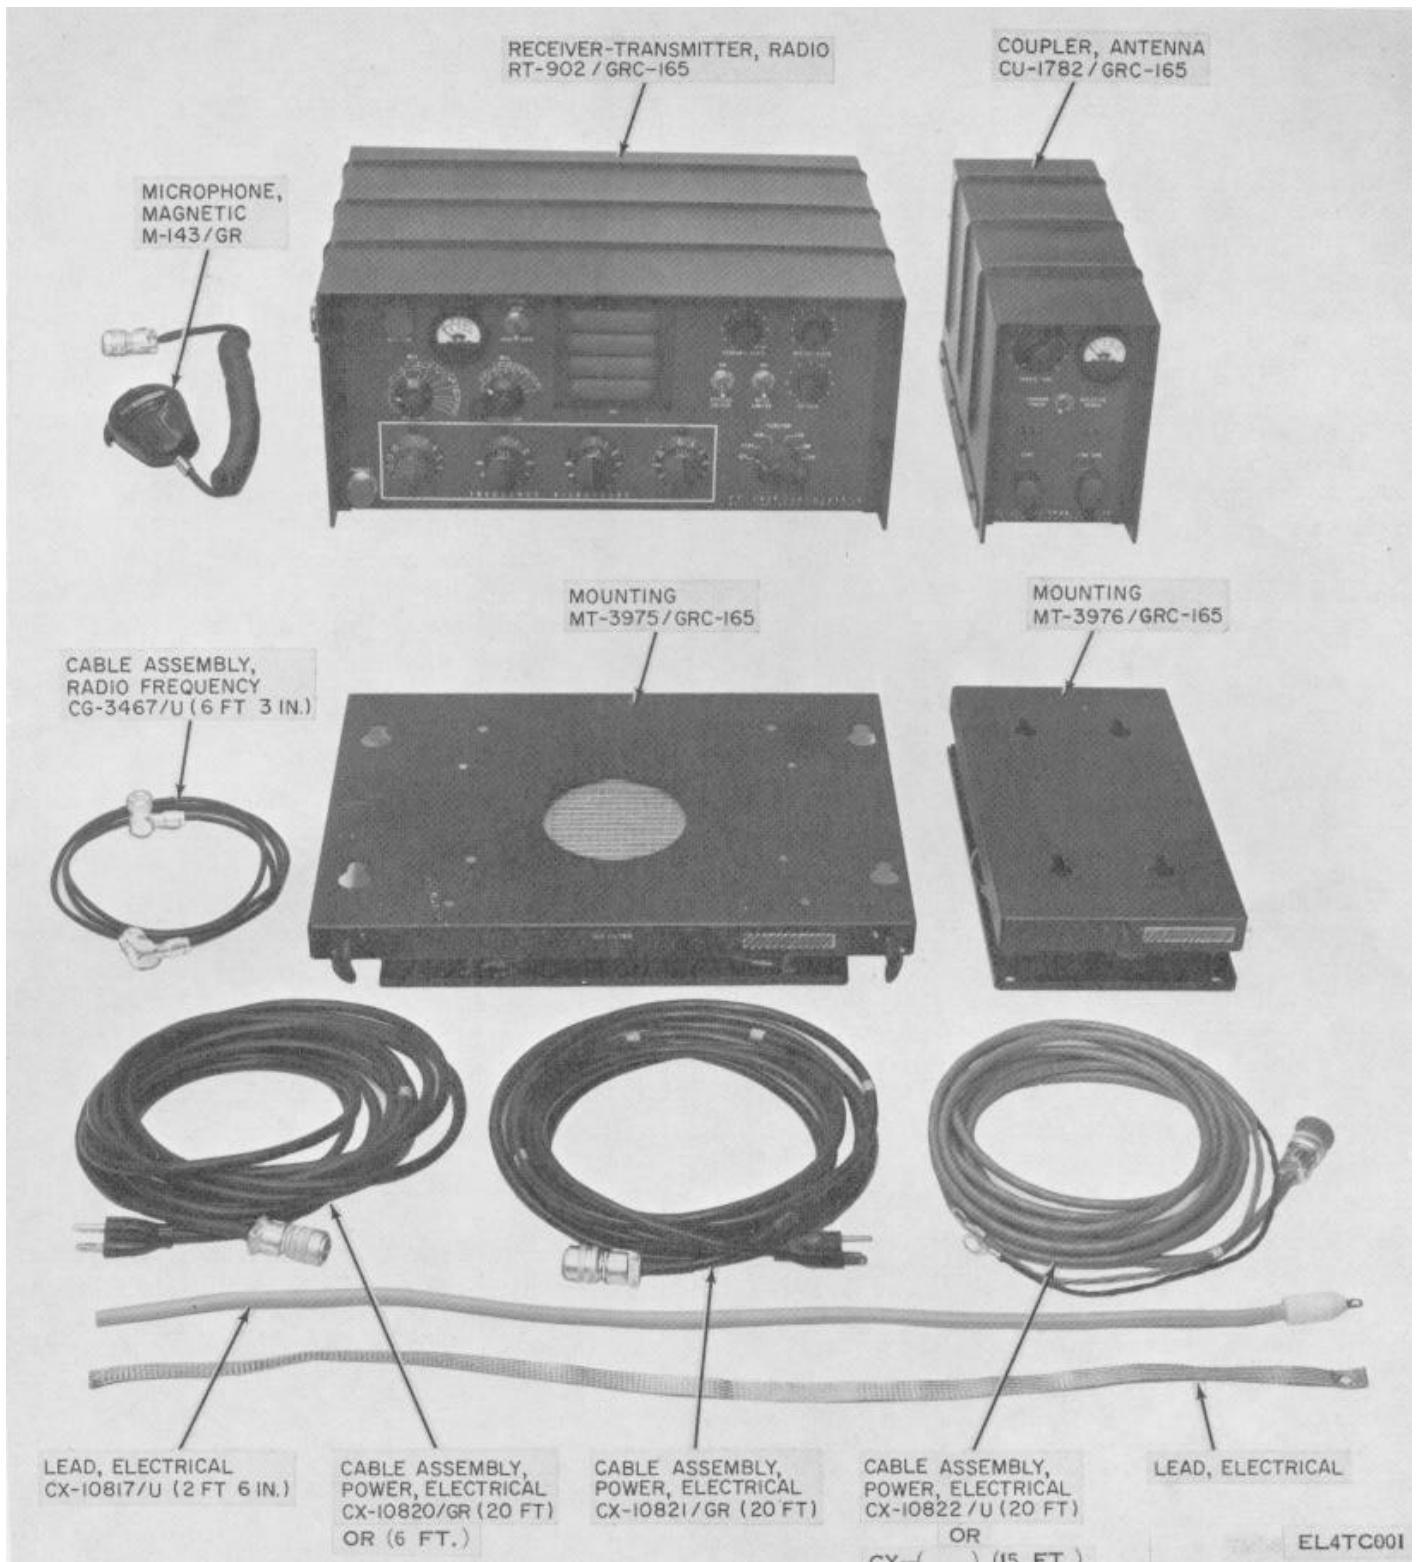
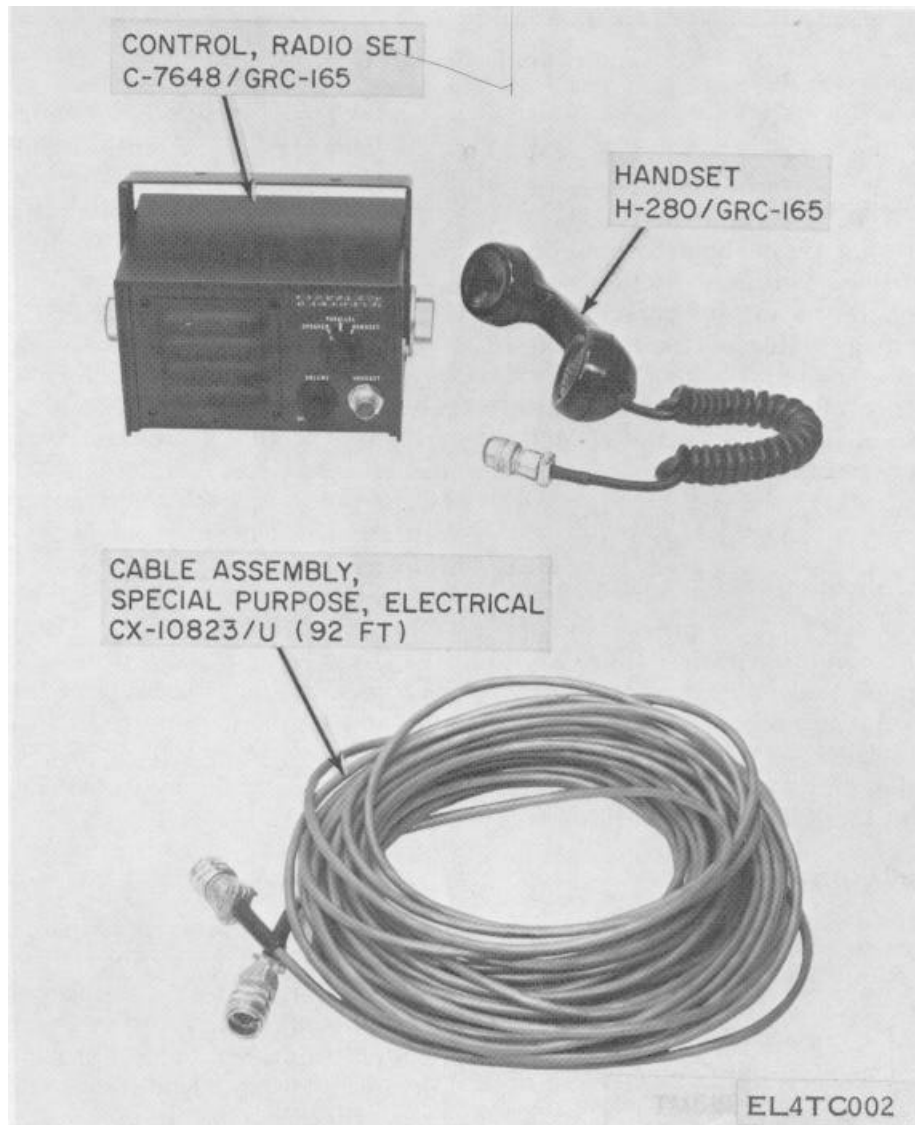

Figure 1-1. Radio Set AN/GRC-165, including optional power cables.
Figure 1-2. Control, Radio Set C-7648/GRC-165.
a. This manual describes Radio Set AN/ GRC-165 (radio set) (fig. 1-1) and Control, Radio Set C-7648/GRC-165 (fig. 1-2), and covers their installation, operation, troubleshooting, and organizational maintenance. It also includes instructions for using the radio set in usual and unusual conditions and for extending the transmission distance beyond the normal range.